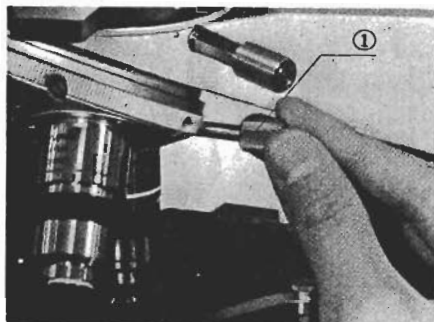

Fig. 14
This objective centration is necessary to all the PO objectives except PO10X. After completing the stage centration, insert two centering wrenches ① into the objective centering screws provided at each centerable objective aperture in the nosepiece. (Fig. 14) The other procedure is just the same as with stage centration.